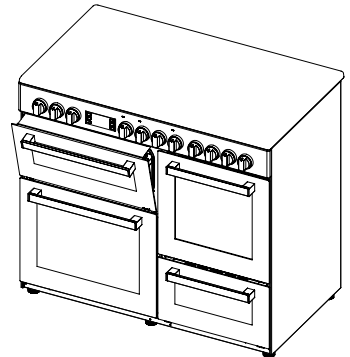

Figure 19
4. And then secure the safety panel in between oven and front cover by gently closing the cover. (figure 19)